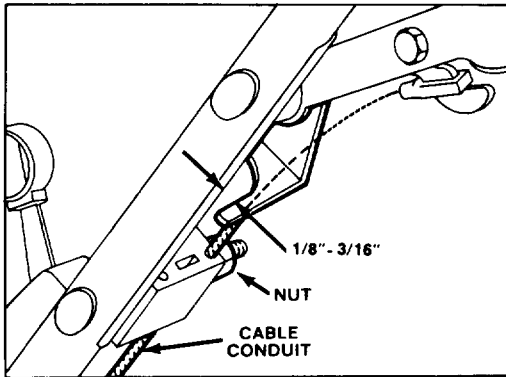

Figure 20
2. CHECK ADJUSTMENT (Fig. 20) – Move control bar toward handle until slack in wire is removed. Gap between brake lever and handle must be 1/8"-3/16". See step 3 for adjustment.
3. ADJUST CABLE CONDUIT – Loosen nut on cable bracket (Fig. 20). Insert 1/8"-3/16"